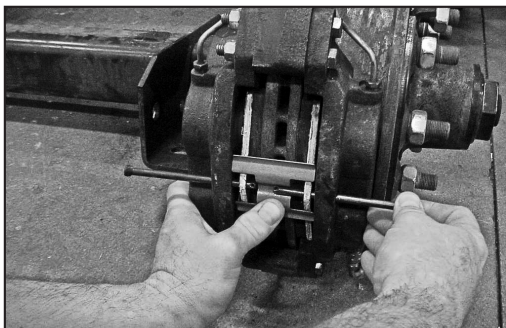

Figure 1
4. Align the brake pad mounting holes with the holes in the caliper. Insert on the two brake pad retaining bolts into each caliper half as shown below in **Figure 1**. Place the anti-rattle spring against the brake pads and press the center toward the rotor while you slide the outboard pad retaining bolt toward the inner lining. Continue sliding the outboard pad retainer bolt until it engages both pads and pushed the second bolt out of the inboard caliper half. Install as the brake pad retaining bolt passes through the second caliper half, install spring tension clip and lock nut (as seen in figure 2). Tighten lock nuts 3-4 full rotations past contact with spring tension clip.
7. Reassemble the brake pads into the disc brake. Make sure to locate the brake lining side of the pads toward the rotor surface, and the steel side of the pads toward the calipers. Align the brake pad mounting holes with the holes in the caliper. Insert one of two brake pad retaining bolts into each caliper half as shown previously in **Figure 1**. Place the anti-rattle spring against the brake pads and press the center toward the rotor while you slide the outboard pad retaining bolt toward the inner lining. Continue sliding the pad retainer bolt until it engages both pads and pushes the second bolt out of the inboard caliper half. Install as the brake